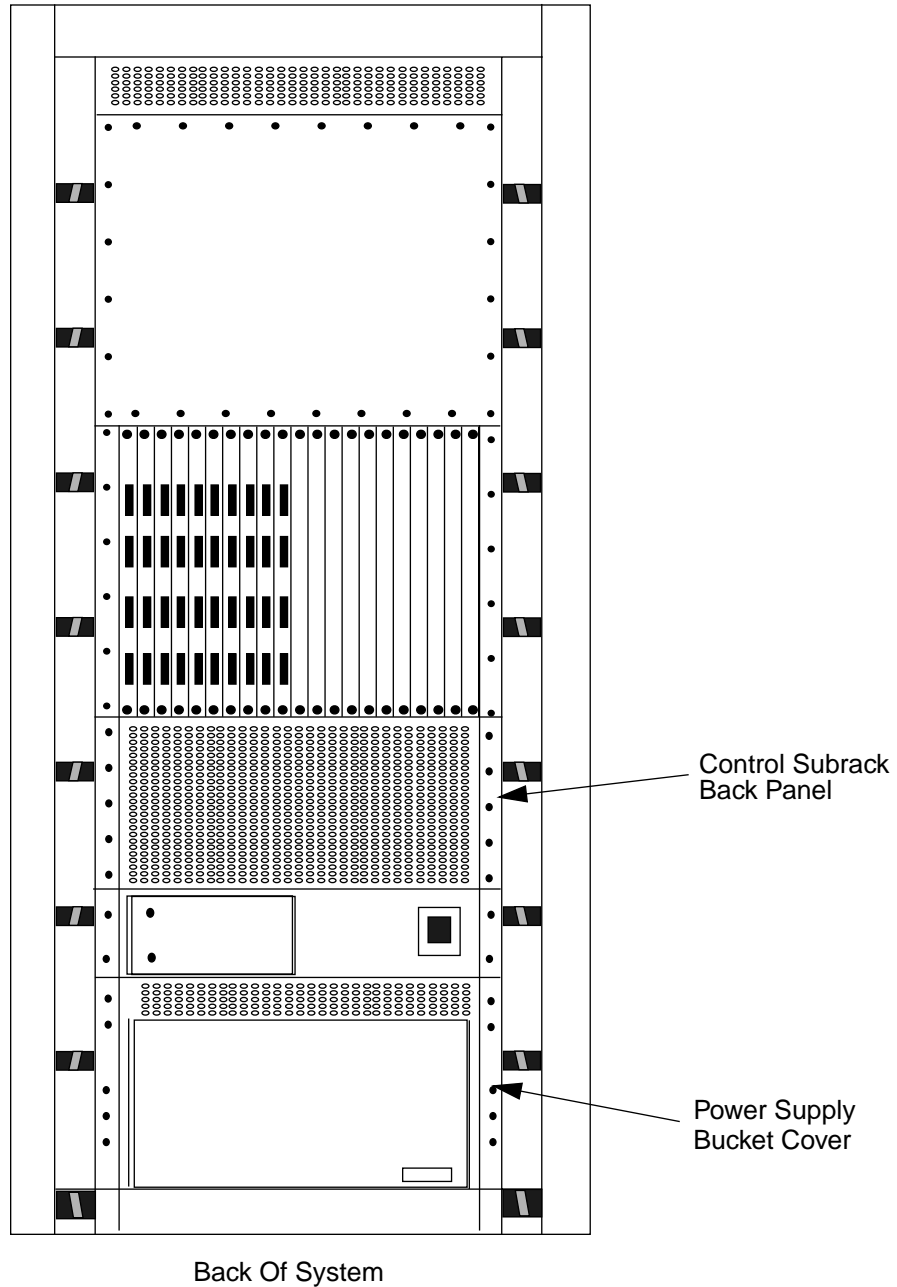

Figure 5: Power Supply Bucket Cover And Control Subrack Back Panel
2. From the rear of the system, remove the power supply bucket cover and control subrack back panel. The location of these components is shown in Figure 5.
6. From the back of the system, replace the power supply bucket cover and the control subrack back panel. (See Figure 5)